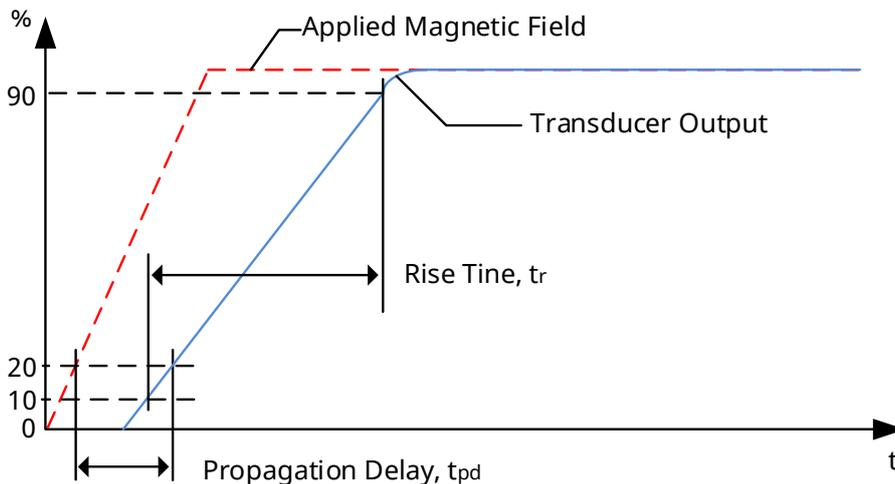

Fig.5 Propagation Delay and Rise Time Definitions
**Propagation Delay ( $t_{pd}$ ):** The time interval between a) when the applied magnetic field reaches 20% of its final value, and b) when the output reaches 20% of its final value (see Figure 5).
**Rise Time ( $t_r$ ):** The time interval between a) when the sensor IC reaches 10% of its final value, and b) when it reaches 90% of its final value (see Figure 5).  $t_r$  is detrimentally affected by eddy current losses observed in the conductive IC ground plane.